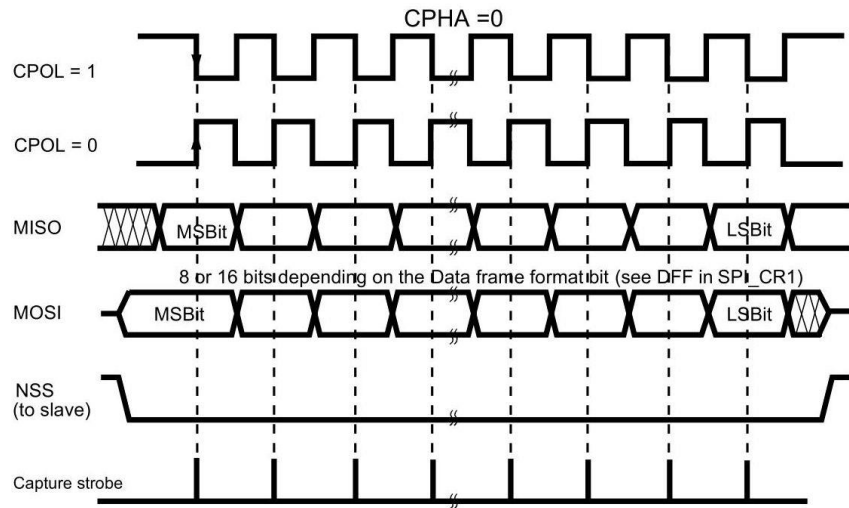

Figure 1 – SPI Timing
The interface supports on Mode 0 (CPOL = 0, CPHA = 0) configuration shown in **Figure 1** below. The state of the SCK signal when the bus master is in Stand-by mode and no data is being transferred is low for Mode 0. The Serial Data In (SI) is sampled at the rising edge of the Serial Clock (SCK) signal and the Serial Data Output (SO) is driven after the falling edge of the SCK clock signal.